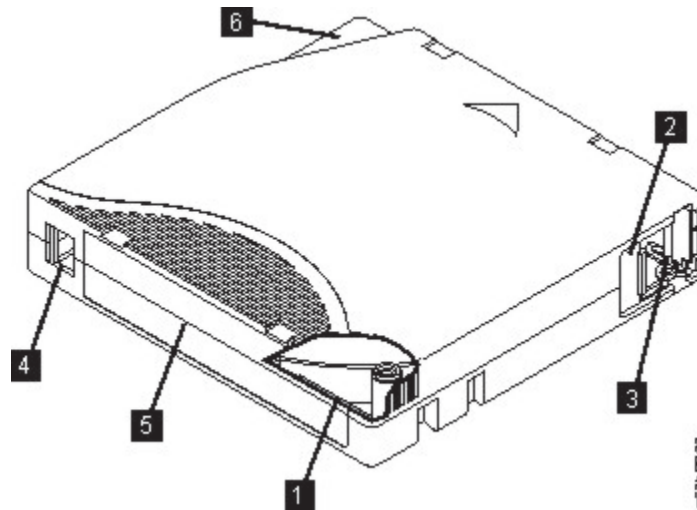

Figure 52. The LTO Ultrium Data Cartridge
Figure 52 on page 69 shows the LTO Ultrium Data Cartridge and its components.
When a bar code label is attached to a tape cartridge, place the label only in the recessed label area (see 5 in Figure 52 on page 69). A label that extends outside of the recessed area can cause loading problems in the drive.
- Position the label within the recessed label area (see **5** in Figure 52 on page 69).